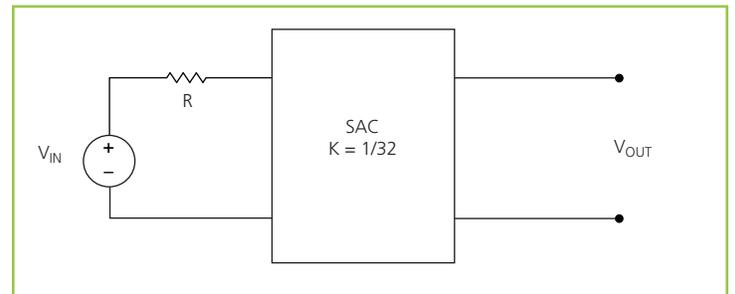

Figure 18 – K = 1/32 Sine Amplitude Converter with series input resistor
$I_Q = 0$  A, Eq. (3) now becomes Eq. (2) and is essentially load independent. A resistor R is now placed in series with  $V_{IN}$  as shown in Figure 18.
Assuming that  $R = 1 \Omega$ , the effective R as seen from the secondary side is  $0.98 \text{ m}\Omega$ , with  $K = 1/32$  as shown in Figure 18.